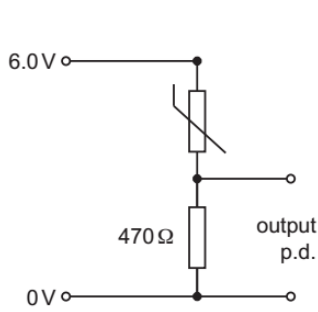
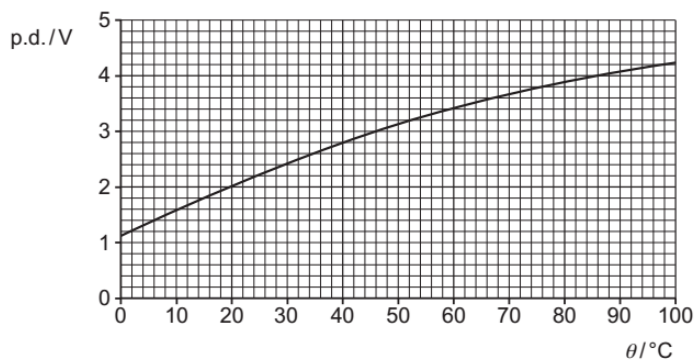

Fig. 5.1
Fig. 5.2
It contains a thermistor in a potential divider circuit as shown in **Fig. 5.1**. **Fig. 5.2** shows the output p.d. V against temperature θ graph for the sensor.
- (a) State suitable apparatus (other than indicated in **Fig. 5.1**) and describe how to use it to obtain the calibration graph shown in **Fig. 5.2**.
- (ii) Use **Fig. 5.2** to estimate the sensitivity of the sensor at 50 °C. Make your method clear. [3]
- (d) The readings of p.d. for **Fig. 5.2** were taken with a digital voltmeter. Five consecutive values were recorded at each temperature.